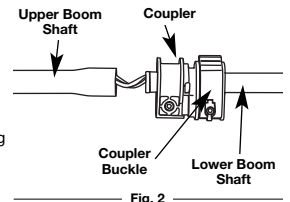

Fig. 2
2. Unfold the unit so that the lower boom is in line with the upper boom (Fig. 2).
**NOTE:** Make sure the coupler buckle is in the clamped position and that the coupler is at the top of its travel area on the lower boom. (Fig. 2).